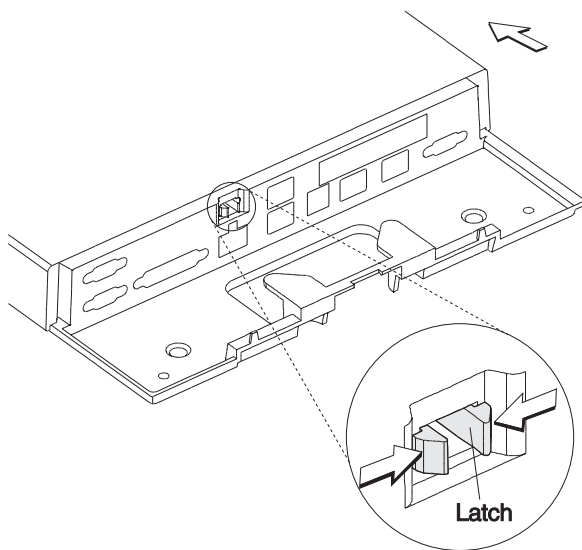

Figure 3-32. Removing the Top Cover
- 2 Open the rear cover and press the latches inward as shown in Figure 3-32 to disengage the cover.